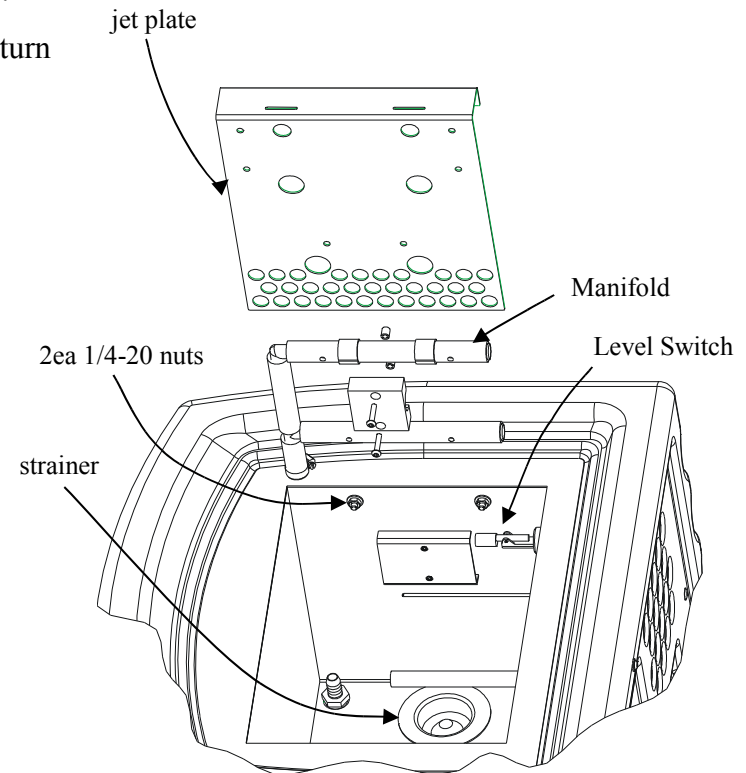

Figure 4
- (1) Drain about three inches of water out of the CleanStation™.
- (2) Remove the tank lid/basket.
- (3) Using a 7/16" socket loosen (but **do not** remove) the 1/4"-20 nuts (see Figure 4) located behind the holes at the top of the jet plate. Lift the jet plate using the top holes provided for the 1/4"-20 nuts.
- (4) Check that the level switch float moves up and down freely and/or no debris is blocking movement. If lifting the float does not turn the control on, you can further troubleshoot the switch using another magnet in place of the level switch magnet.